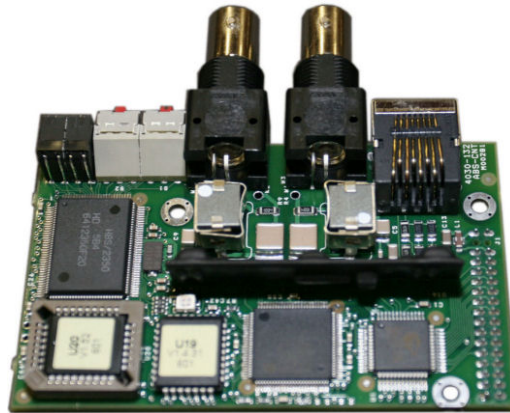
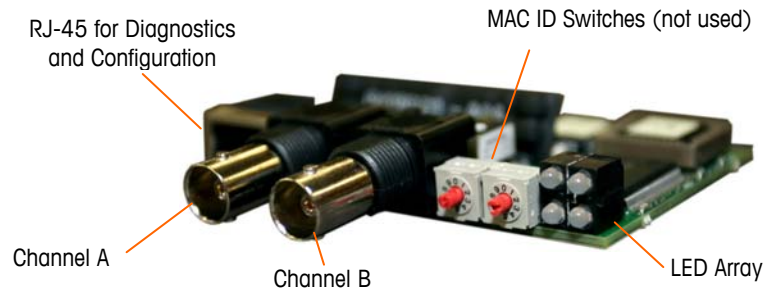
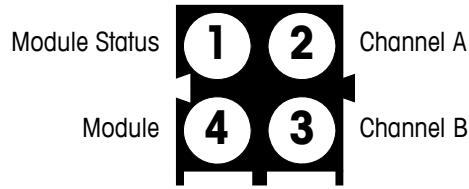
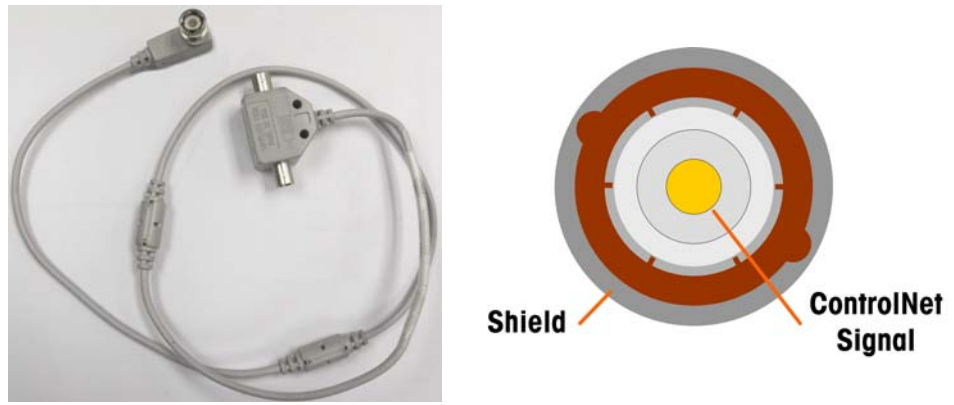

Figure 2-81: ControlNet PLC Module
Figure 2-82: ControlNet PLC Module Connections and Components
Figure 2-83: ControlNet Status Indicator LEDs
Figure 2-84: ControlNet Cable and Connector
The ControlNet PLC Module (Figure 2-81, Figure 2-82) connects to the ControlNet network via one or two coaxial cables (Figure 2-84). Channel B is redundant with Channel A, and is not used unless ControlNet detects no signal on Channel A. Note that the module's address is set in software, and the MAC ID switches indicated in Figure 2-82 are not used.
- Do not plug an Ethernet cable into the RJ-45 connector shown at left in Figure 2-82. Damage to the IND780 Q.iMPACT may result.
Figure 2-83 shows the array of status indicator LEDs on the ControlNet card (see also Figure 2-82).
Figure 2-84 shows an example of a ControlNet cable, and a close-up view of the connector. Note that the connector may be straight or right-angled, as seen here. This cable is not supplied by Mettler Toledo.